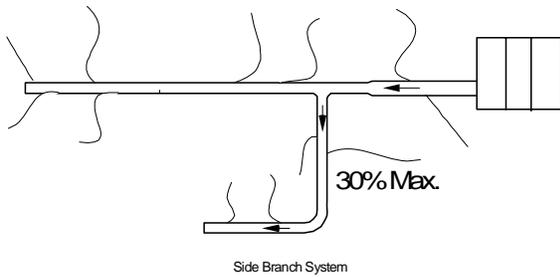

Figure 6. Typical Side-Branch System Layout
10. **Plenum for Multiple Stories:** The plenum is normally in the attic or basement. In some two story or split-level home it is advantageous to go from one level to another with the plenum. Boxing in the plenum (see Figure 6) or routing it through a closet usually accomplishes this.